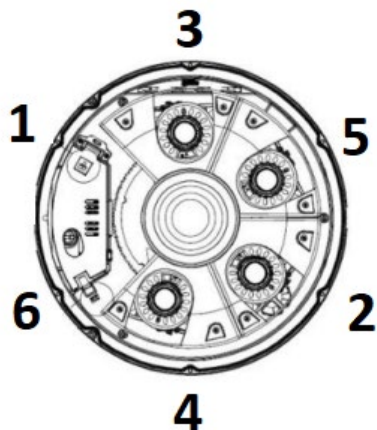

Figure 11
19. Use a screwdriver and approximately **75%** tighten each of the six-bubble trim-ring screws identified with a number in Figure 11.
Note: Figure 11 is a birds-eye view of the camera **with** the bubble trim-ring attached (as a result, the inside of the camera is not visible).
- **If the trim ring screws are tightened in a 'ring' pattern, there is potential that the trim-ring will not align correctly with the camera seal, allowing water to penetrate the camera body. When fitting the bubble trim-ring, it is important that the screws are tightened in a 'star pattern' as per the numbers in Figure 11.**